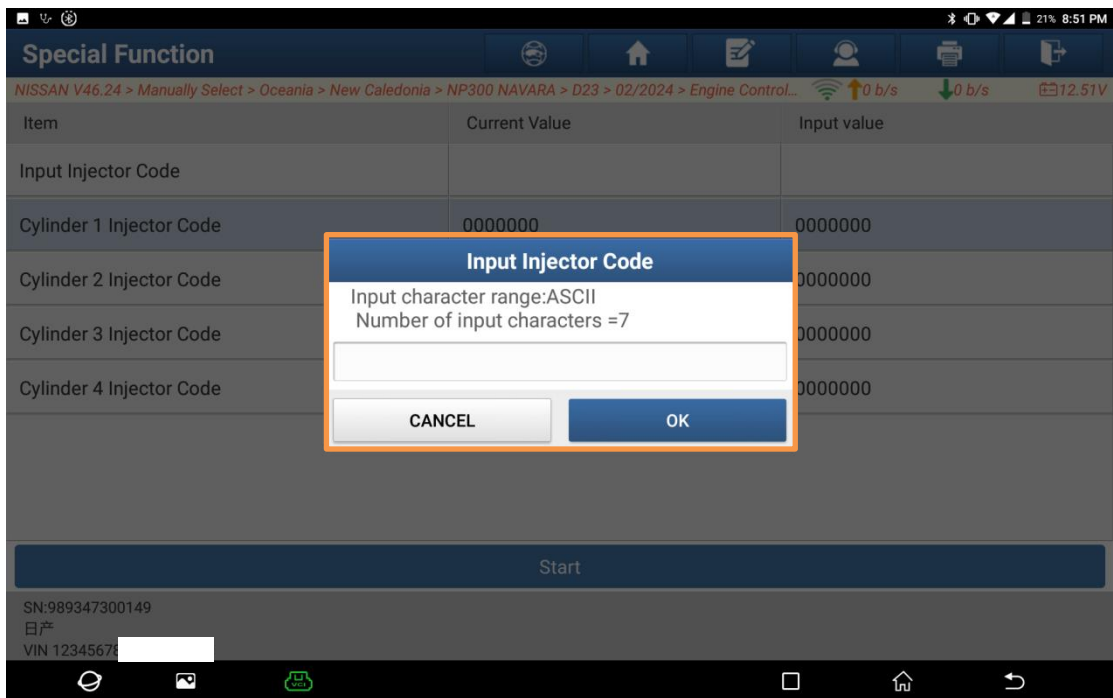
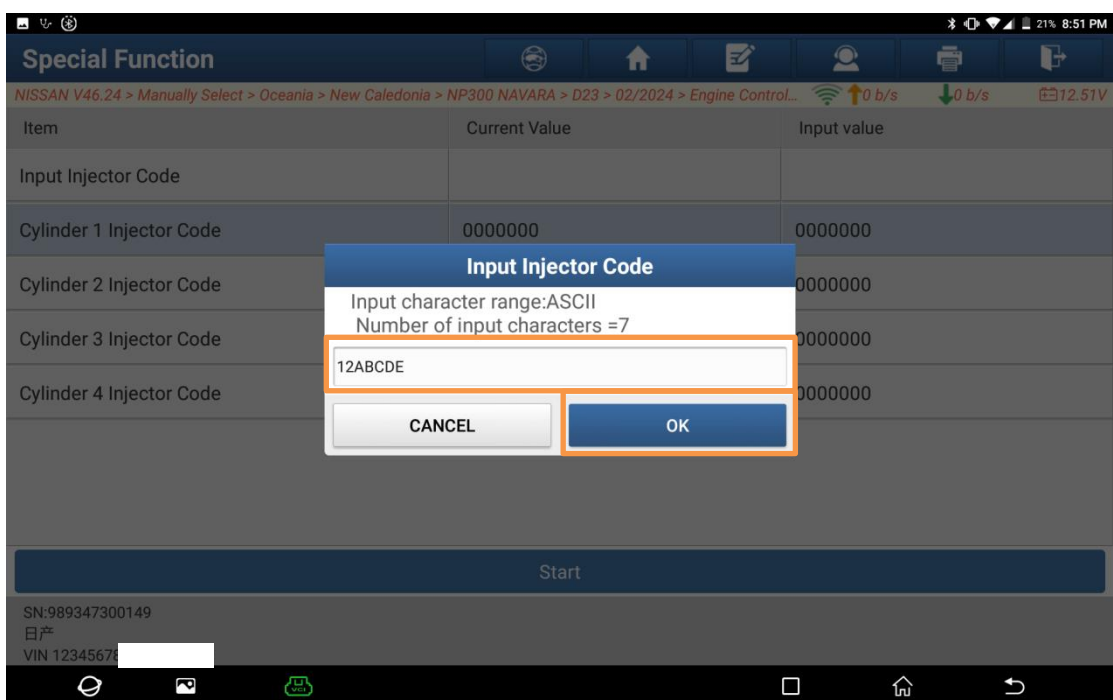

Figure 15
Figure 16
- 9. Click on the injector code field for the cylinder you need to calibrate. A pop-up window for entering the injector code will appear, as shown in Figure 15. Enter the injector code in the input box (7 characters total. Note that the characters I, O, Q, and V cannot be used. Also, distinguish easily confused characters such as 0 and O, 1 and I, 8 and B). After entering the code, click [OK], as shown in Figure 16.